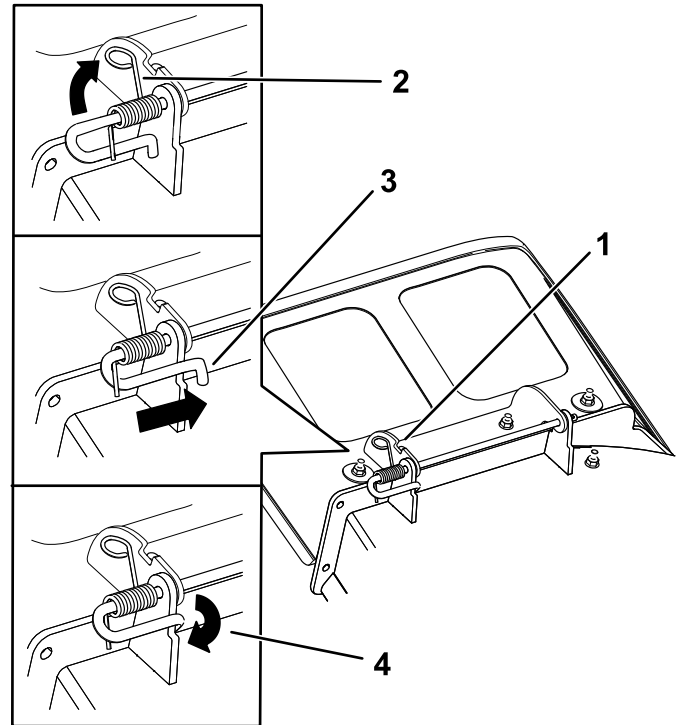

Figure 69
3. Position the new discharge deflector with the bracket ends between the welded brackets on the deck as shown in Figure 69.
5. Position the spring on the rod as shown in Figure 69 so that the shorter spring end comes from under the rod before the bend and going over the rod as it returns from the bend.
6. Lift the loop end of the spring and place it into the notch on the deflector bracket (Figure 69).
7. Secure the rod and spring assembly by twisting it so that the short end of the rod is behind the front bracket welded to the deck (Figure 69).